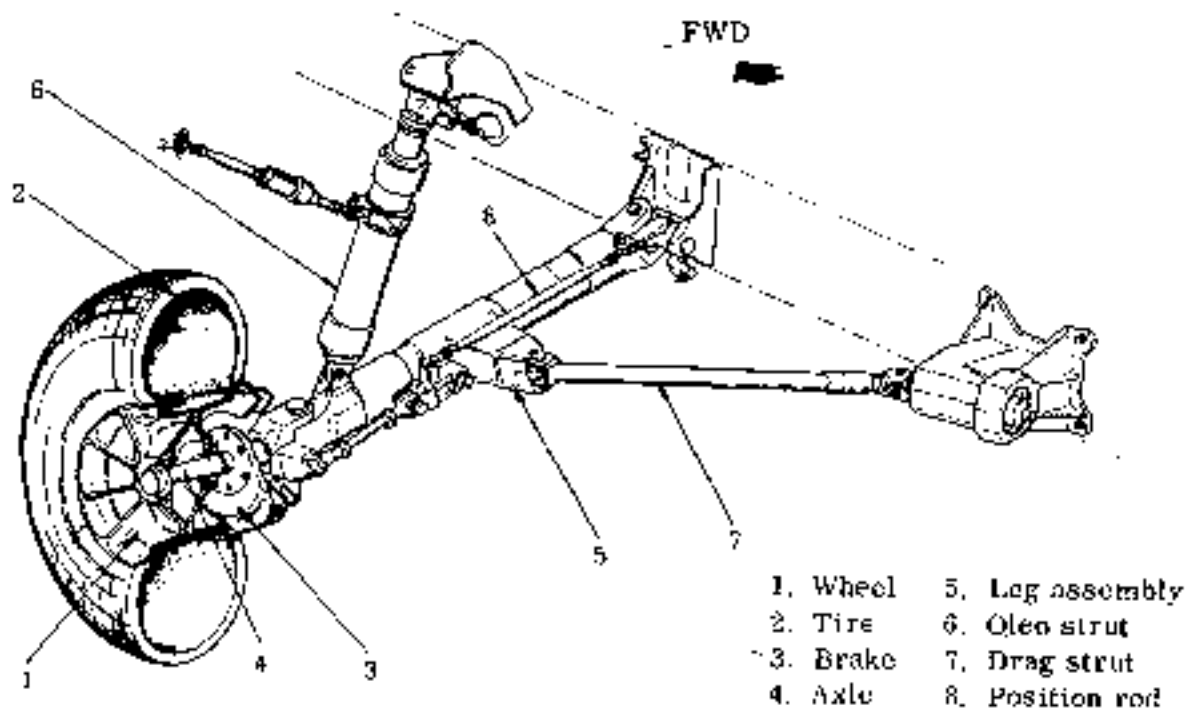

Fig. 4-19 Main landing gear
The main landing gear consists of the wheel, tire, brake, axle, leg assembly, oleo strut, drag strut, and position rod. (See Fig. 4-19)
3.2 REMOVAL AND INSTALLATION OF MAIN LANDING GEAR (See Fig 4-19)